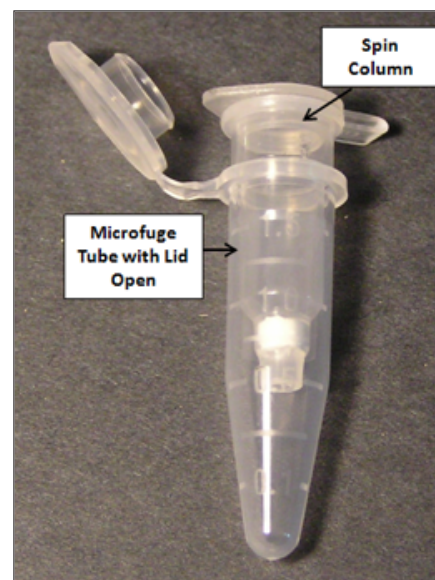

Figure 1.4: Close the Lid of the Spin Column and Leave the Lid of the Microfuge Tube Open.
27. Close the lid of your spin column, and leave the lid of your 1.7 ml microfuge tube open. (See **Figure 1.4**).